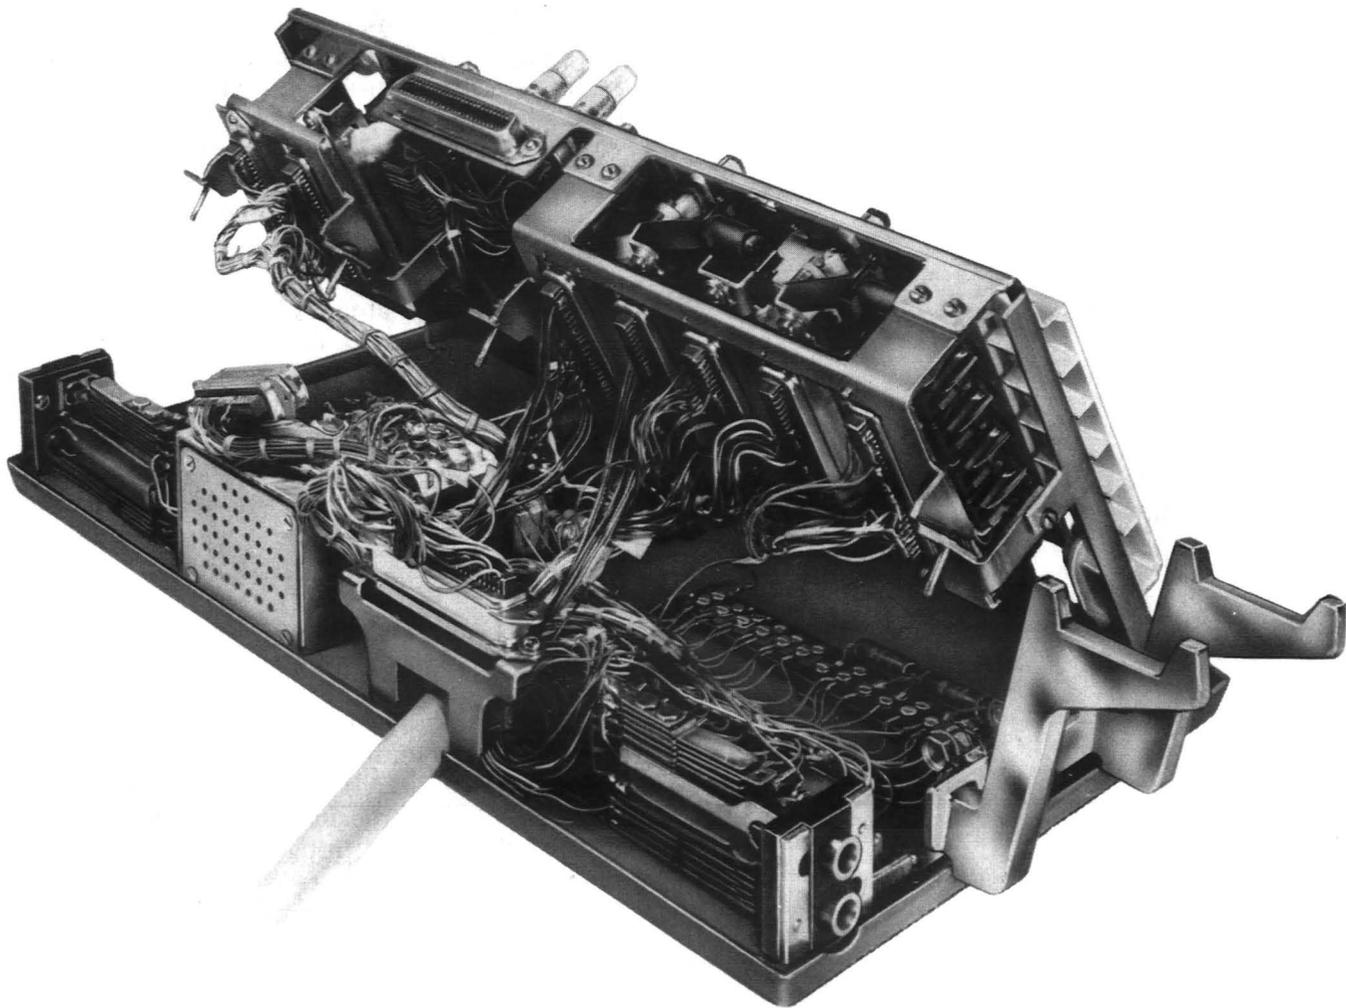

Fig. 9—Typical Cording
- (5) Terminate spade-tipped conductors. Refer to section covering connections for assignment of conductors.
- (6) Identify cord plugs and secure to cord frame with screws provided.
- (7) Insert plugs for dial, lamp fields, etc, into their associated connectors.
- (8) Dress cord conductors to avoid interference with set components and frame assemblies. Figure 9 shows a typical arrangement.